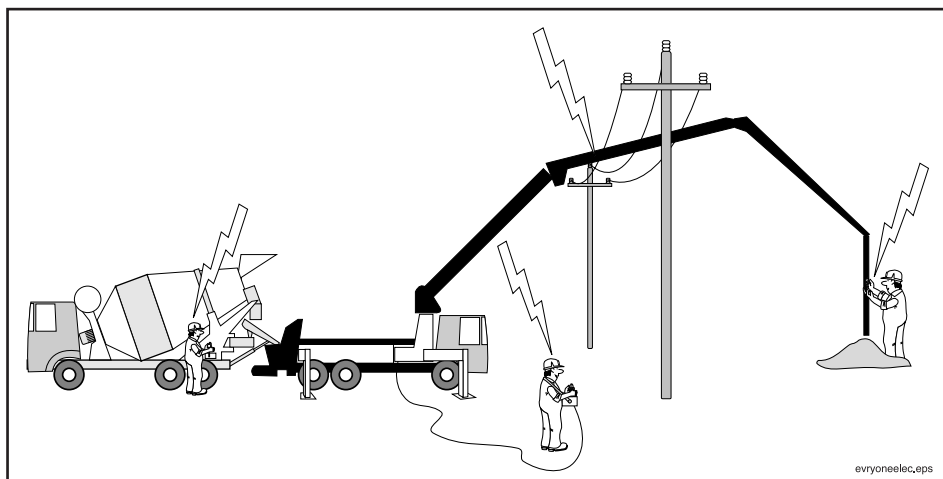

Figure 2
1.2 ⚠️ WARNING! ELECTROCUTION HAZARD! If the pump becomes energized, the electricity will travel through the concrete going in to the hopper and energize the mixer truck. If you are touching your truck or the pump, you could be electrocuted. Monitor the boom movements and alert the operator if the boom moves closer than 20 feet to any electrical wire (50 feet when the voltage exceeds 350 kv). (See Figure 2).